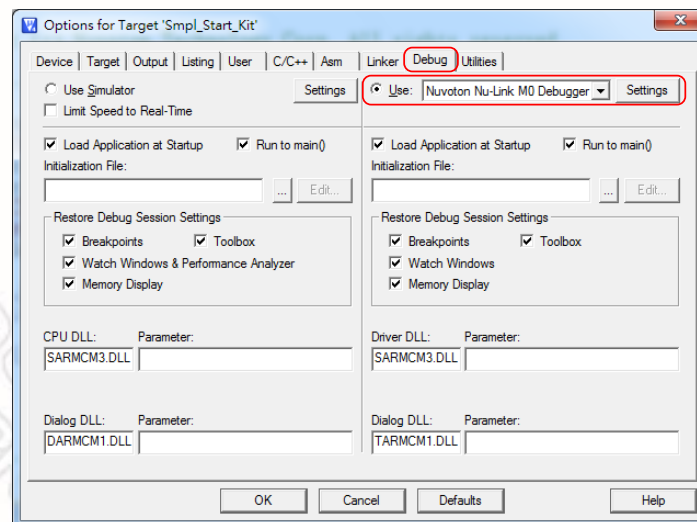

Figure 4-10 Keil RVMDK Debugger Selection
Step 4: Invoke **Project** → **Options for Target** → **Debug**, and make sure the **Use: Nuvoton Nu-Link M0 Debugger** option is checked, as shown in Figure 4-10.